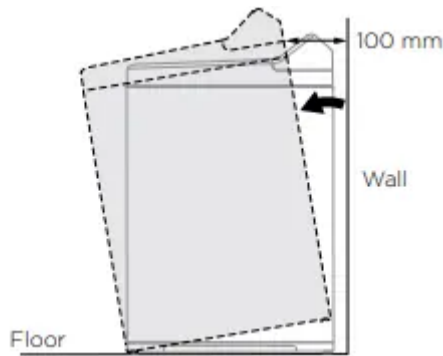
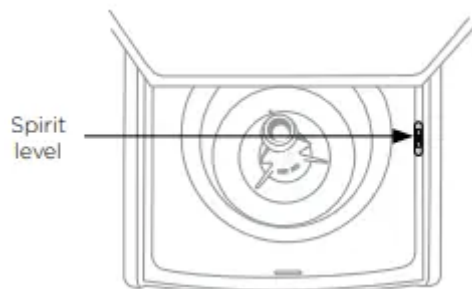

Fig.2 Tilt washer forward
Fig.3 Levelling from front to back
3. With the lid closed, tilt the washer forward away from the wall approximately 100 mm (Fig.2), the self-adjusting feet will release. Gently lower the washer back down.
4. Open the lid, place the spirit level at either the right hand or left hand side of the top deck. Level the washer from front to back using the front feet only (Fig.3), winding both feet in or out equally. Tilt the washer forward again and lower back down (Fig.2).